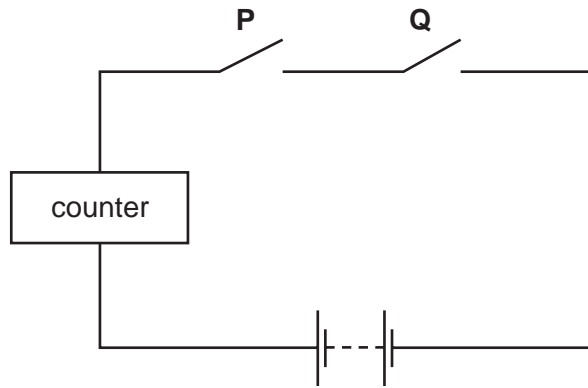

Fig. 6
- (e) Logic gates could be used to control a counter. Fig. 6 shows a pressure pad circuit which is used to trigger a counter when a person steps on pad **P** and, at the same time, presses the push button **Q**.